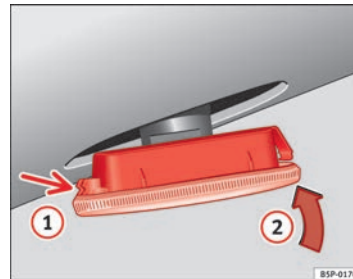

Fig. 237 Side turn signal
- First place the turn signal in the opening in the bodywork, fixing the tabs ⇒ Fig. 237, arrow ①.
- Insert the bulb as shown by the arrow ② ⇒ Fig. 237.